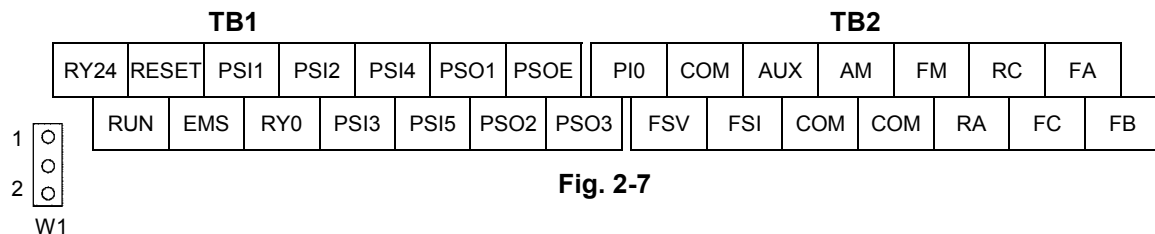

Fig. 2-7
- (9) The layout of the control circuit terminal block is shown in Fig. 2-7, and the functions in Table 5-1. Terminals with the same terminal symbol are connected internally.
- (10) After wiring, always check the mutual wiring.